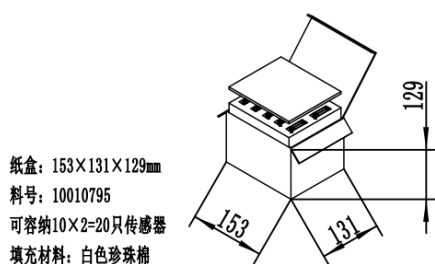

Figure 11-inner box
- 2.Put the whole plate of sensors in Small Box one by one (Figure 11), then puts a foam plate at the top. Each Small Box can hold 20 sensors.